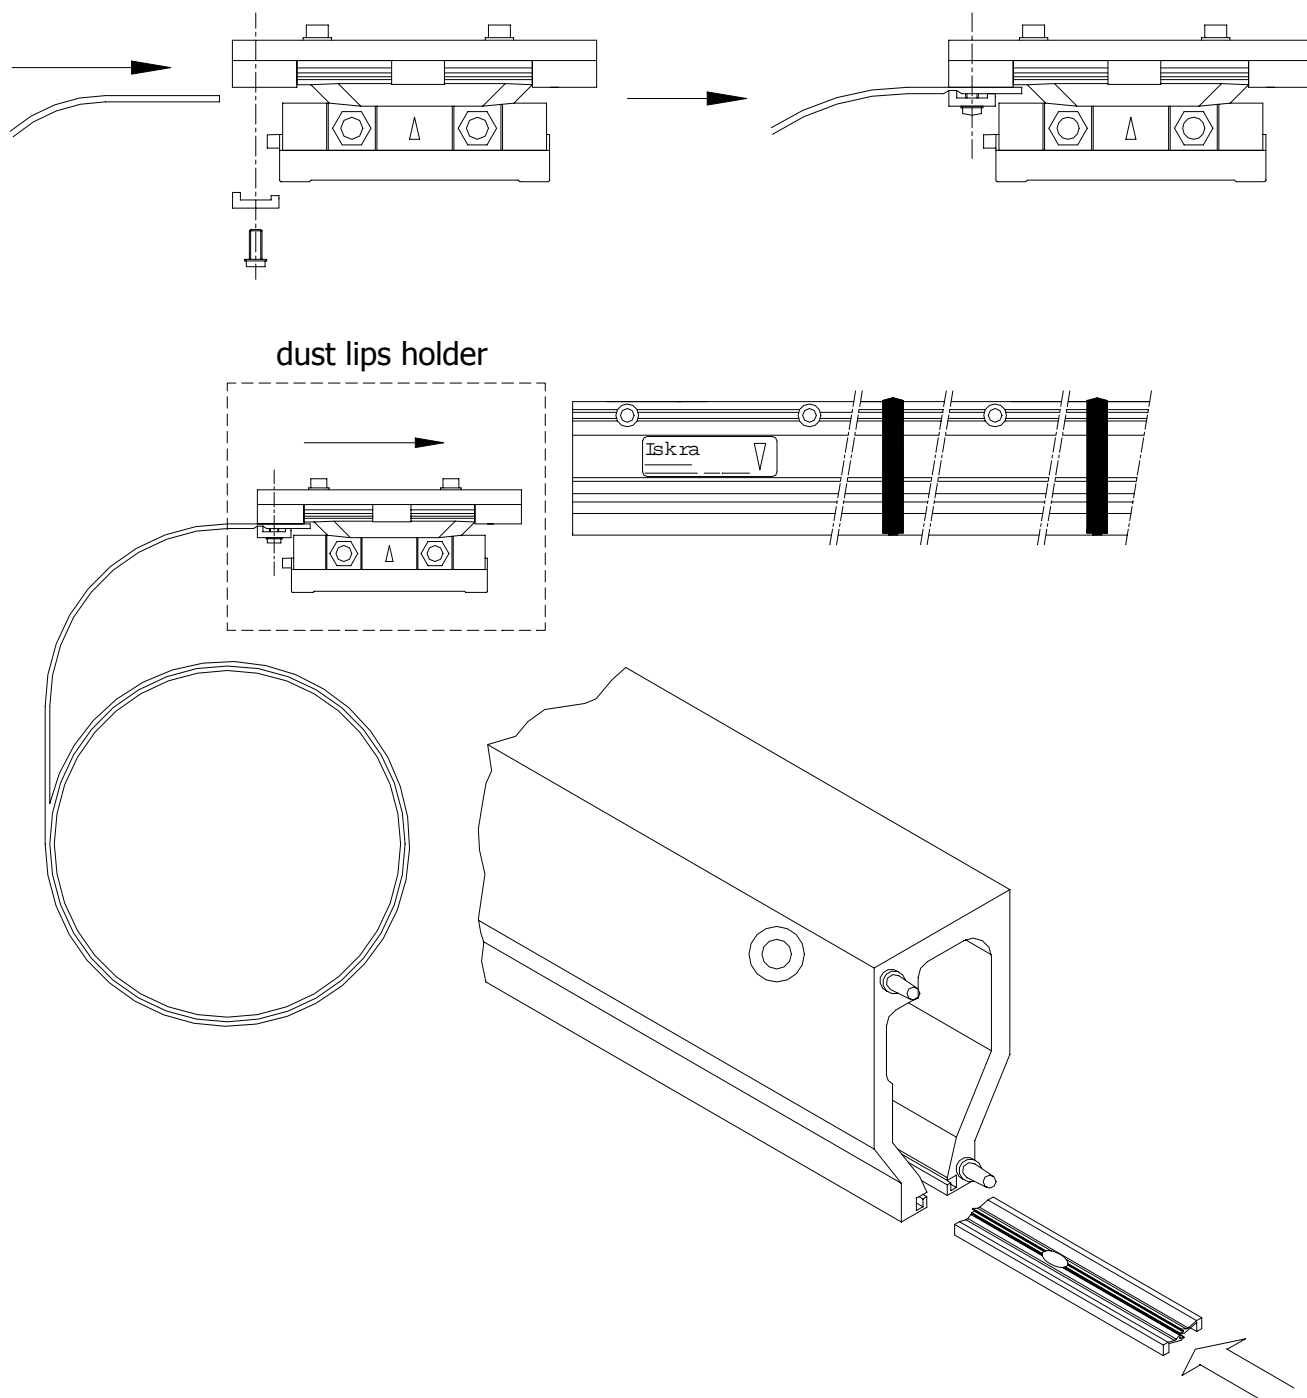

Fig. 2-12
- Dust lips holder; for inserting of the Dust lips (Refer to Fig. 2-12)